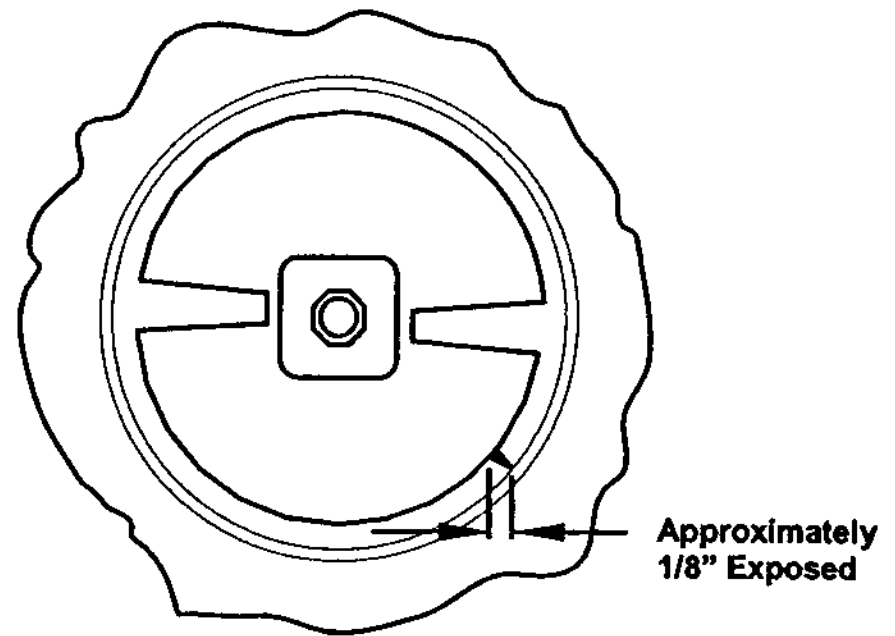

Fig. 17
f. While maintaining force against the dasher, rotate it slowly until the tongue of the dasher engages the groove in the drive system at the rear of the cylinder. The outer most portion of the dasher should be recessed approximately 1/4" to 3/8" inside the freezing cylinder. No part of the dasher should extend outside the cylinder. Scraper blades should be visible (Fig. 17) extending approximately 1/8" beyond the dasher.